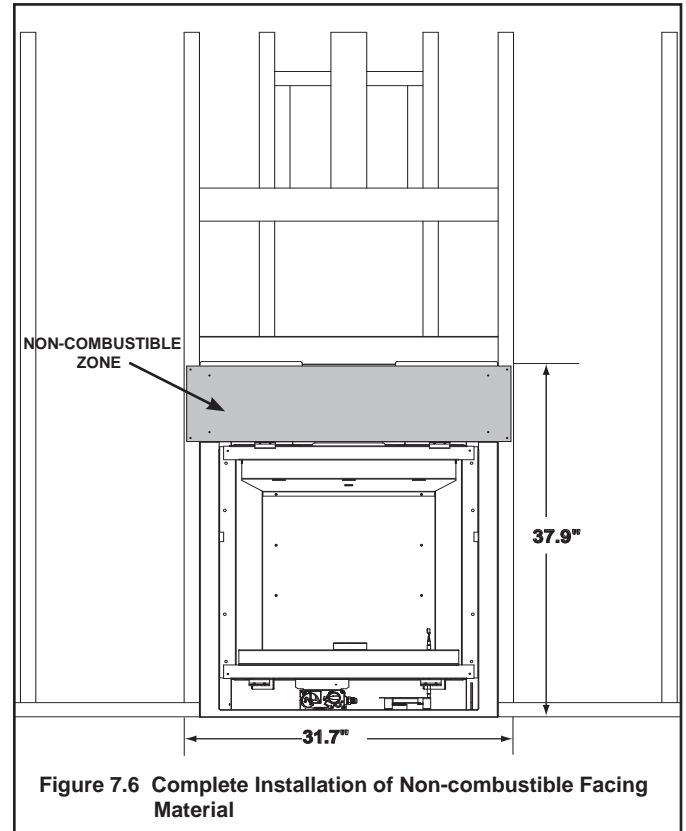

Figure 7.6 Complete Installation of Non-combustible Facing Material
- Attach non-combustible panel to appliance and framing with supplied screws. See Figures 7.6, 7.7 and 7.8.